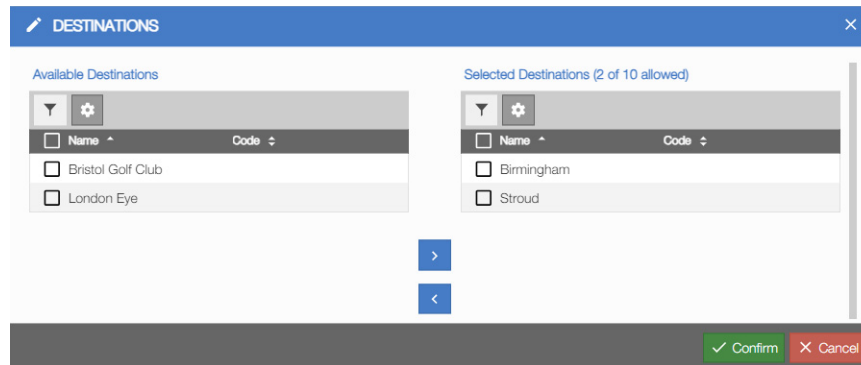

Figure 6-14: Weight Contract Summary Filter Selection
5. Select **Edit**  to select filters (Figure 6-14):